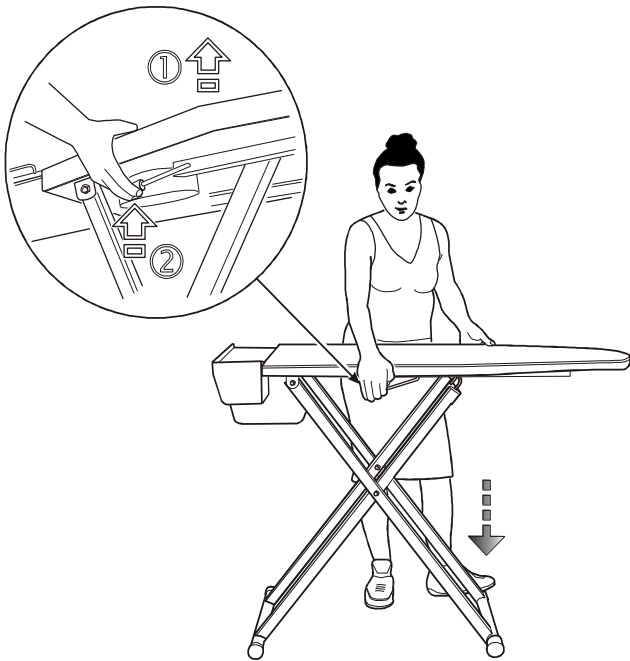

Fig. 7
2. Slightly lift the board upwards and completely pull the specific lever (fig. 7).